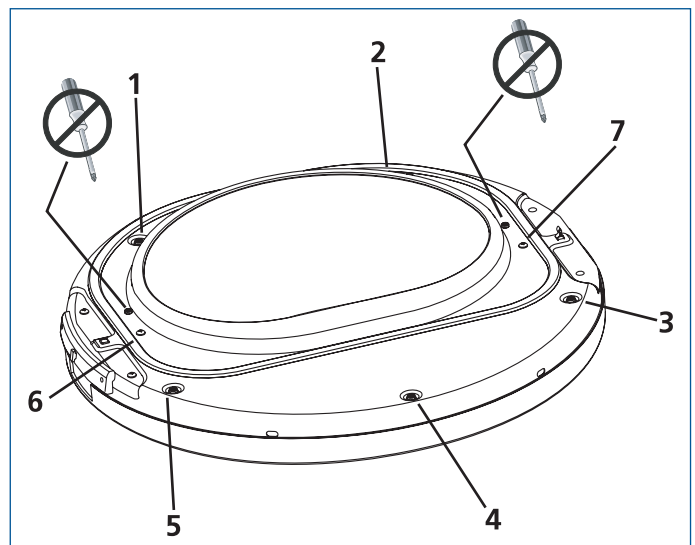

Figure 4-3.
5. Locate the 5 indented head screws (no. 1-5) in the small, circular recesses (at 11, 1, 4, 6, and 8 o'clock positions) of the inner door. Remove and save these 5 screws. (See Figure 4-3)
6. Locate the 2 pan head screws (no. 6-7) on the inner door nearest the metal strike and center of hinge (9 and 3 o'clock positions). Remove and save these 2 screws. (See Figure 4-3)